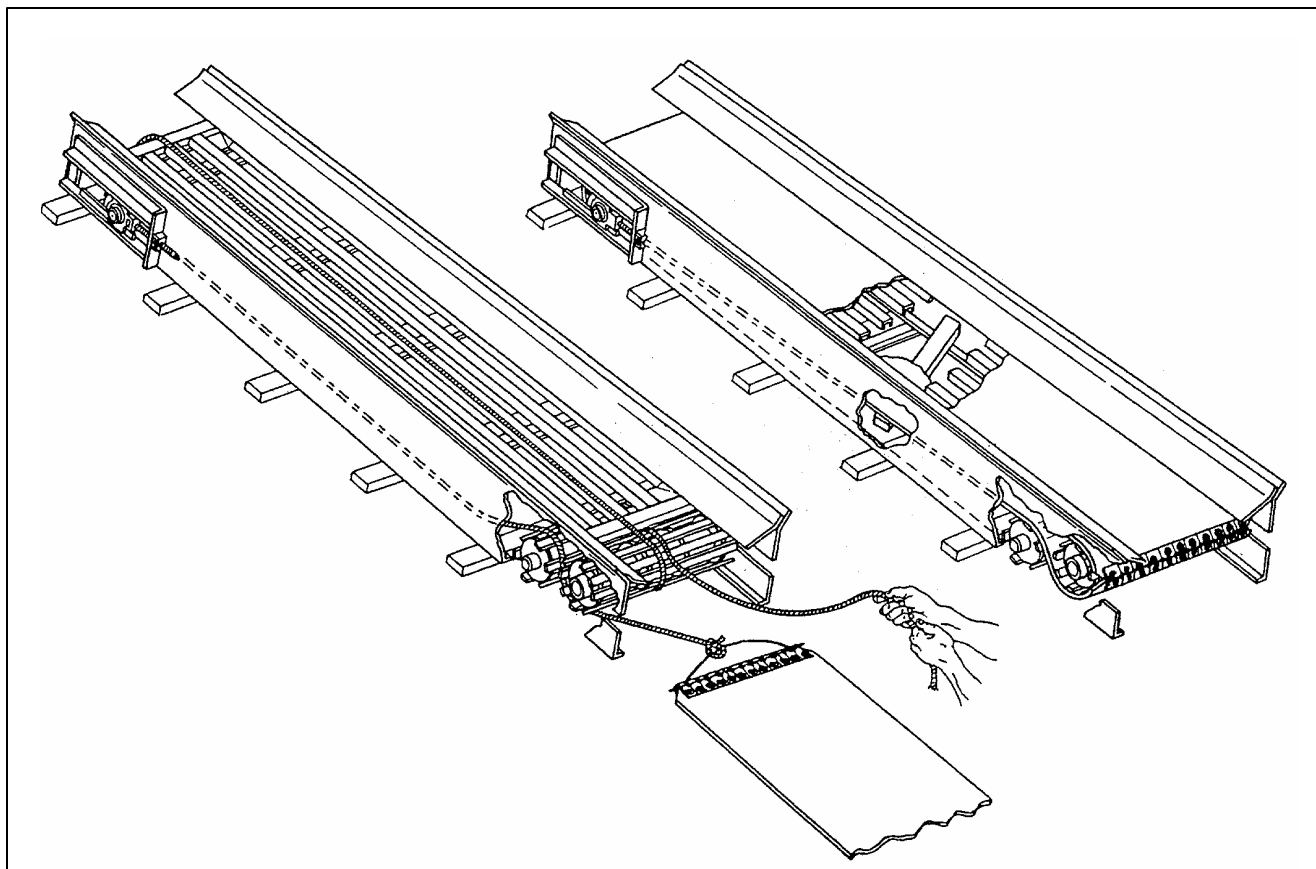

Figure 24 - Installing #5 Belt
12. Shut off all power and insert the lumber under the belt at the bottom to support its weight as shown in Figure 24.